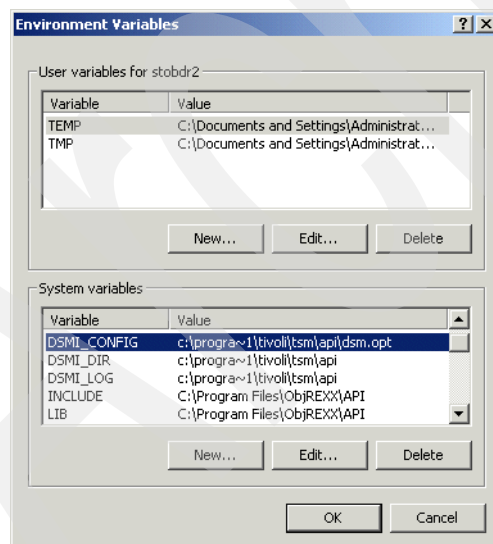

Figure 8-29 Set API Environment Variables window
- k. The API uses unique environment variables to locate files. Set up the API environment variables DSMI\_CONFIG, DSMI\_DIR, and DSMI\_LOG within Microsoft Windows after selecting **System Properties** → **Environment Variables**. See Figure 8-29 for details.